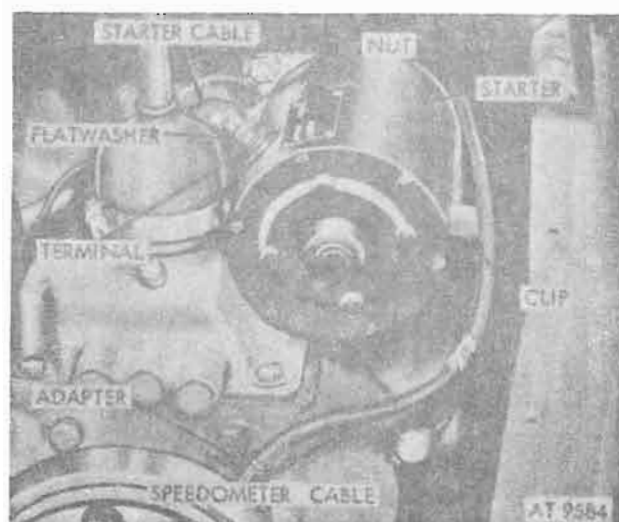

Figure 4-15. Speedometer cable.
(7) Disconnect speedometer cable from drive adapter (fig. 4-15). Remove speedometer cable from clip beneath starter. Remove nut and flat washer securing electrical cables to starter terminal.